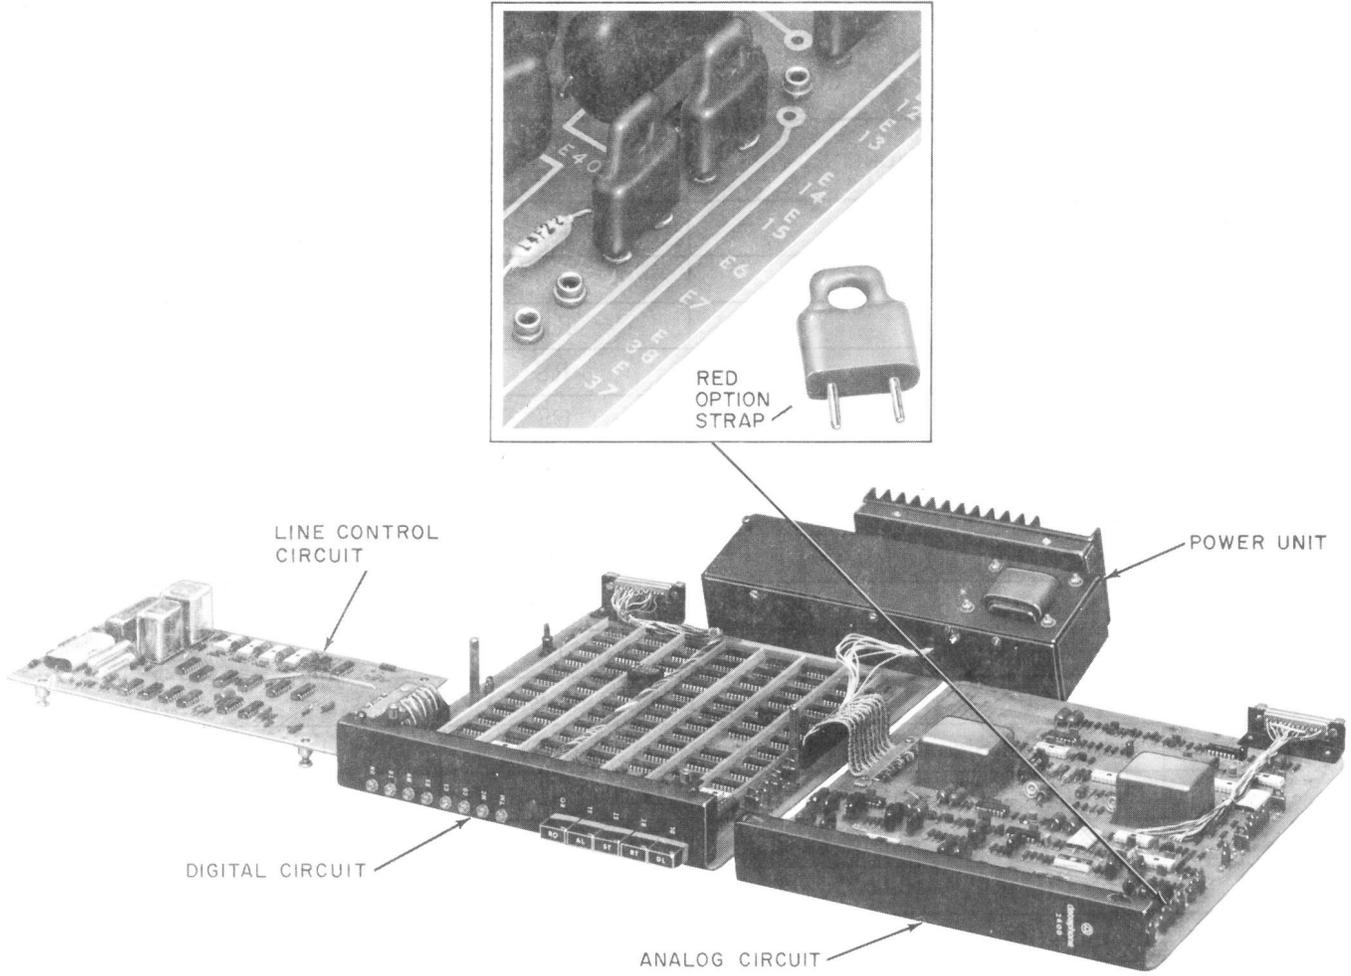

Fig. 2—Data Set 201C—Internal View
- L1—Consists of the basic data set that is composed of two printed circuit boards (analog and digital, Fig. 2) interconnected by flexible cables.
- L2—Consists of the 100A power unit (Fig. 2) that provides +12, -12, and +5 volts.
- L3—Consists of the line control circuit board (Fig. 2) and the M13F telephone line interface cord.